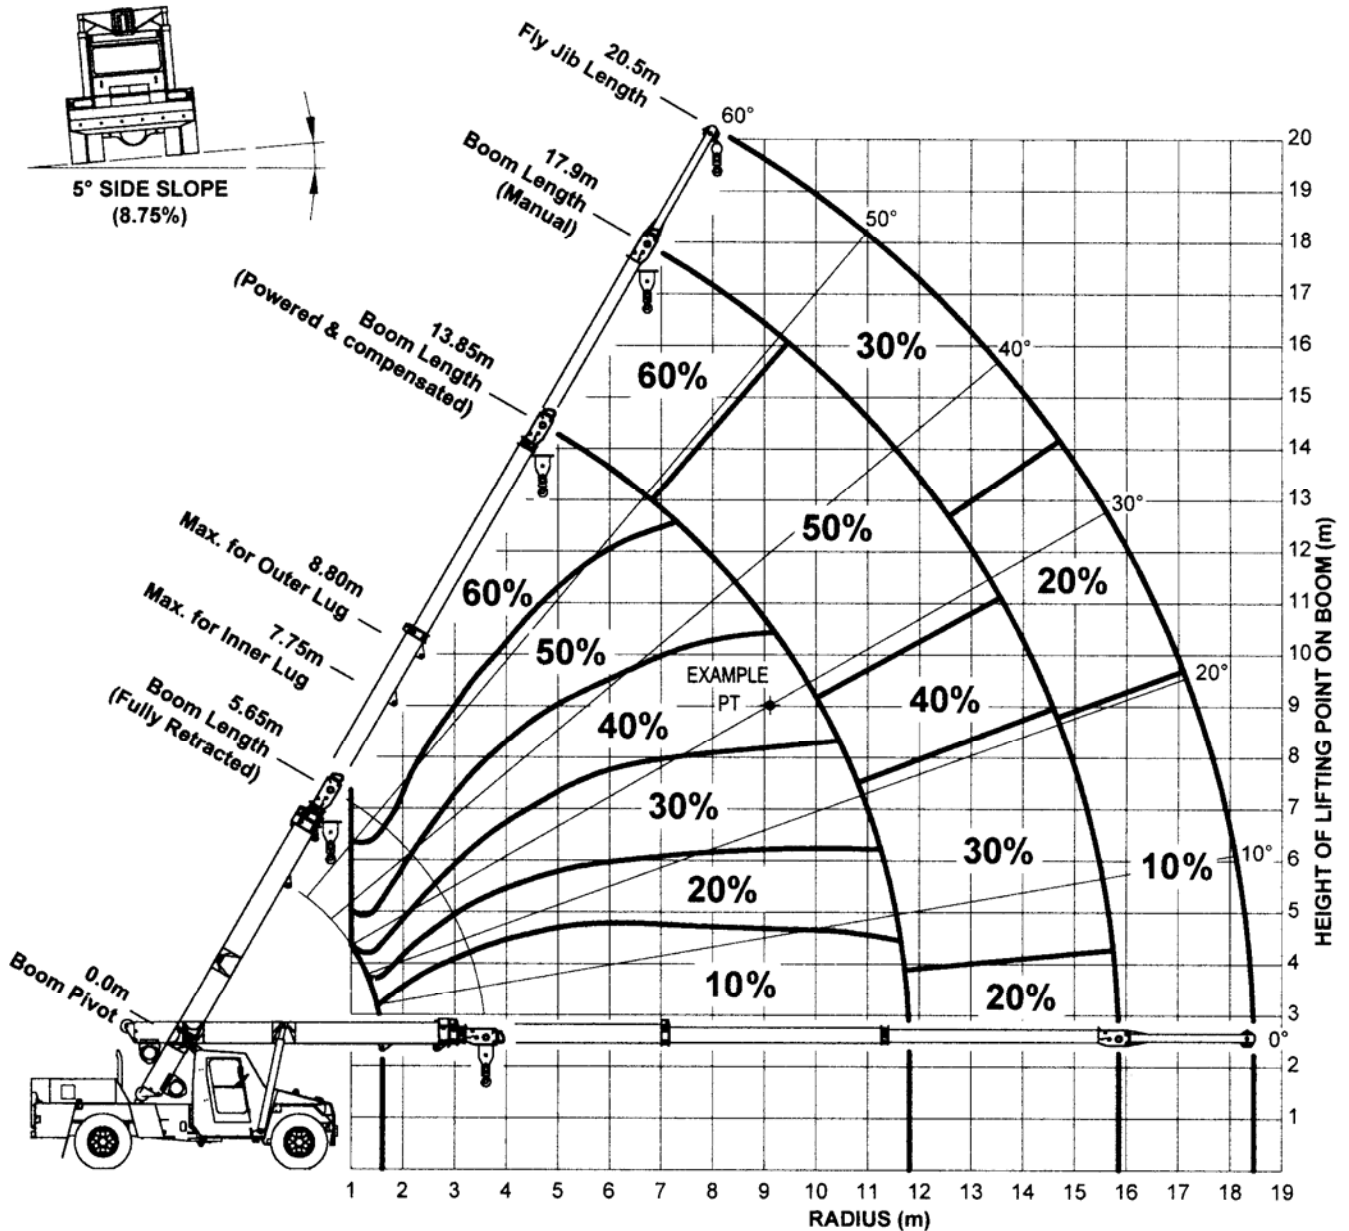

Figure 1: Percentage Deration Chart for 4WD 10/12, MAC 14, AT-14
- **REDUCE** the rated capacity of the crane by the percentage value for the applicable crane model as shown in figure 1,2 or 3 for operating on side slopes up to 5° (8.75% gradient) - **REMEMBER** the crane's load indicator will **NOT** automatically derate the rated capacity.
Percentage Deration: 40 % (From Figure 1: Percentage Deration Chart)